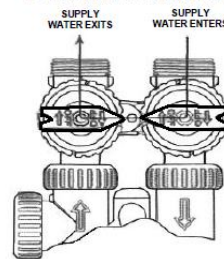

Figure 3 - Bypass
2. **Bypass Position:** The inlet and outlet handles point to the center of the bypass. The system is isolated from the water pressure in the plumbing system. Untreated water is supplied to the building (**Fig. 3**).
- STEP 10:** **MAKE SURE THE BYPASS VALVE IS IN THE "BYPASS" POSITION** (Figure3, Page 5) NOTE: the INLET and OUTLET knobs turn *clockwise* to close the port to the softener and *counter-clockwise* to open the port to the softener. **Open the main supply valve or turn on power to the pump on private well systems.** Check for leaks and correct as needed
- 1) Pressure must be relieved on the system by placing the Bypass Valve in the "Bypass" position (Figure 3, Page 5) and initiating a manual regeneration (section 3, page 10).